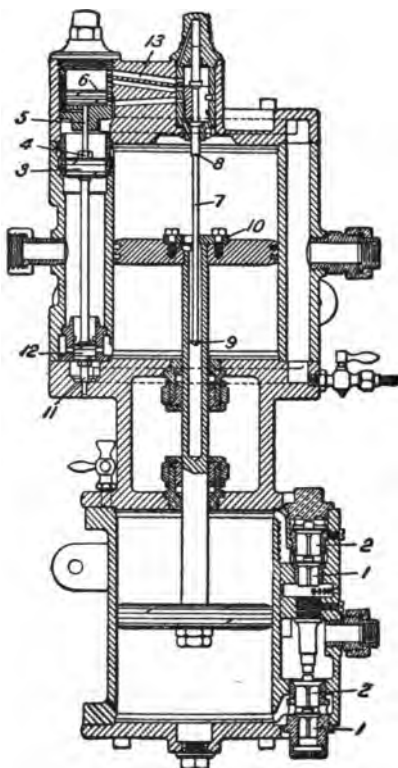

FIG. 84.—EIGHT-INCH WESTINGHOUSE AIR PUMP.
A. In the air cylinder the valves are not likely to get out of order. The most serious trouble is that due to a breakage of the same. If it is an inlet valve (1), Fig. 84, of the eight-inch Westinghouse pump, the pump will not necessarily be crippled but may continue to work single acting. That is, it will do all of the compressing in one end of the cylinder, while air is merely churned in and out of the other end through the passage left clear by the broken valve.